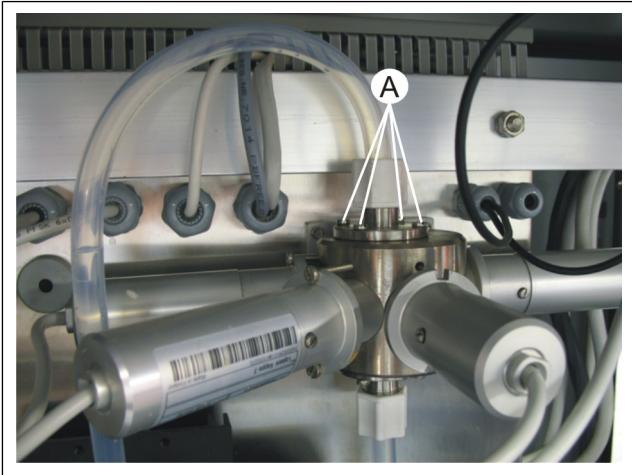

Fig. 3. Cleaning the Kappa measurement cell.
3. Remove the 4 screws from the upper part of the cell (Fig. 3, step A). **Be careful not to drop the screws into the cell!**